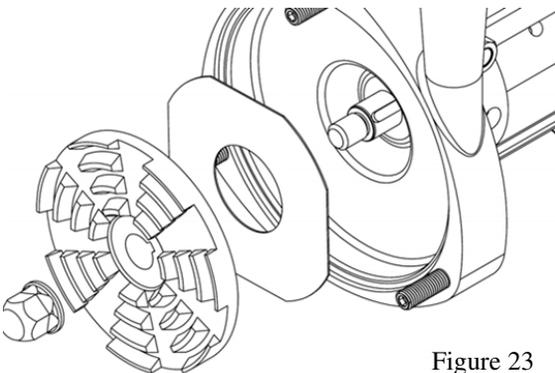

Figure 23
6. Remove the impeller nut, impeller, stub shaft, setting shim, and clearance shim, Figure 23.